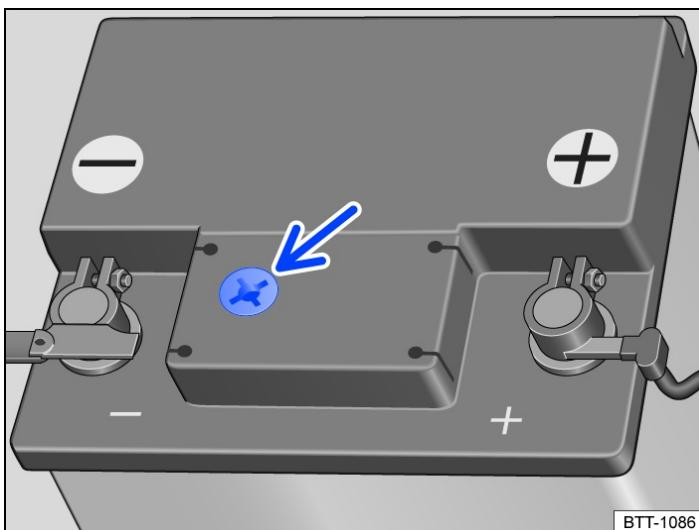

Fig. 1 Battery window on the top of the 12-volt vehicle battery (illustration).
- Ensure that enough light is available for you to clearly see the colour indicator in the round battery window on the top of the 12-volt vehicle battery (arrow) → *Fig. 1*. Never use naked flames or glowing objects as a light source.